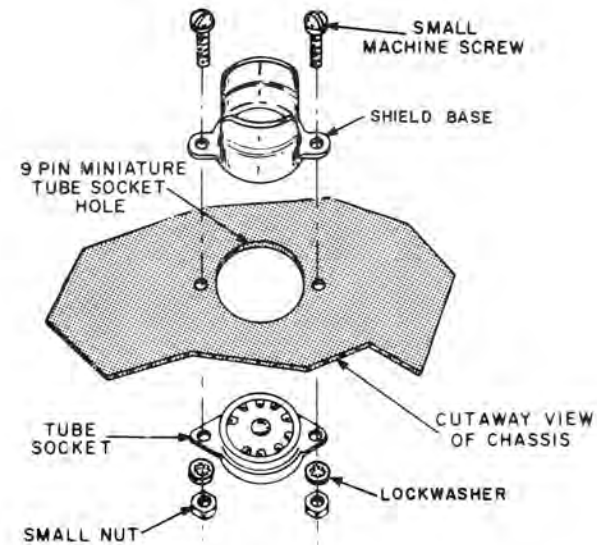

Figure 3. HOW TO MOUNT A TUBE SHIELD BASE
- See Figure 3. Insert four 4-40 screws through the mounting holes of the two tube shield bases, and through the chassis holes for the V-1 and V-2 sockets. (It may be necessary to thread the screws through with a screwdriver.) From inside the chassis, mount the V-1 and V-2 sockets on these screws. Position the keyways (the extra space between two pins) as shown. Secure with four lockwashers and nuts.